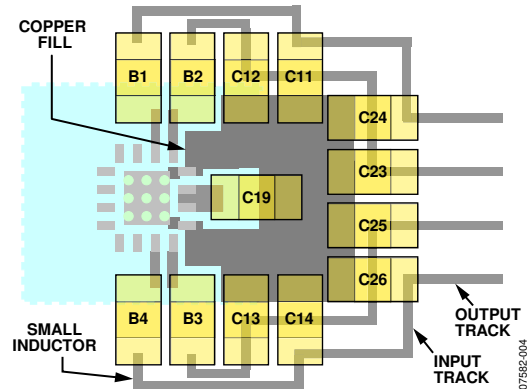
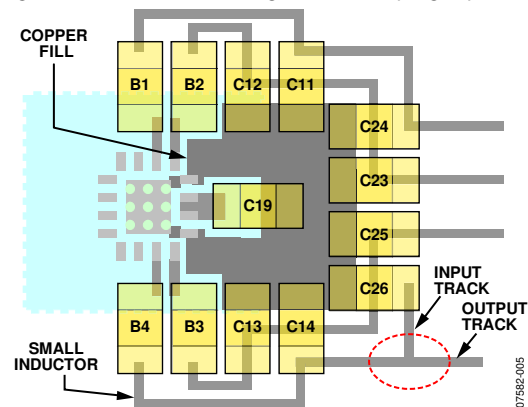

Figure 4. Placement and Routing for the Decoupling Capacitors
Figure 5. Incorrect Routing for the Output Decoupling Capacitor
- Place the decoupling capacitors for the beads, C11, C12, C13, C14, C23, C24, C25, and C26, as close to the amplifier chip as possible, and connect all their ground terminals together as close as possible, as shown in Figure 4. The same principle applies to the decoupling capacitors for the inductors, C15, C16, C17, and C18, if they exist in the application design. Ideally, solder their ground terminals together; do not rely on PCB traces or ground planes for connecting their ground terminals together.
- Place the decoupling capacitor for the power supply, C19, as close to the amplifier chip as possible, as shown in Figure 4, and connect its ground terminal directly to the IC ground pins, Pin 13 and Pin 16.
- The 1 nF capacitor and the ferrite bead can block the EMI for up to 250 MHz. To eliminate EMIs higher than the 250 MHz, place a low value small size capacitor, such as 100 pF 0402 size, in parallel with the decoupling capacitors, C11, C12, C13, and C14. However, place this small capacitor a short distance away, at least 20 mm, from the 1 nF decoupling capacitor. Ideally, the ground terminals of these capacitors are connected to the ground terminals or the PCB traces, which are placed as close to the output loads (loudspeakers) as possible. In this way, the PCB connecting trace between these two capacitors serves as an inductor for filtering out the high frequency component, as shown in Figure 4.
- The incoming and outgoing PCB tracks to the output decoupling capacitors should not be connected to each other. The correct layout is shown in Figure 4. An example of an incorrect layout is shown in Figure 5.